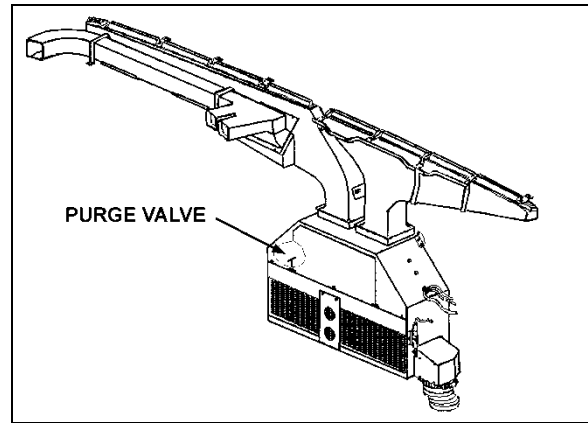
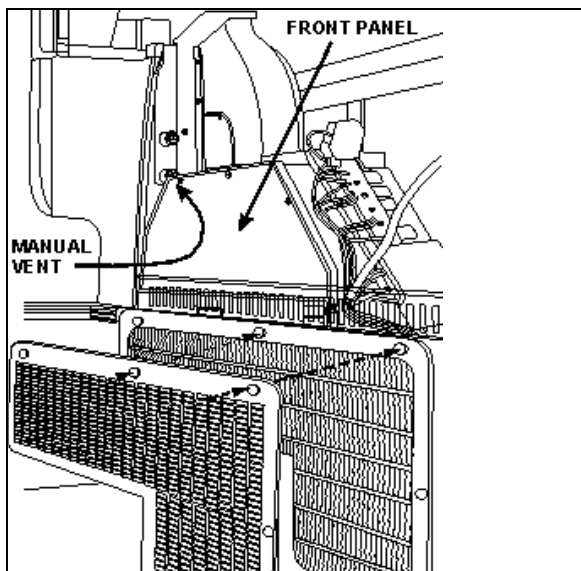
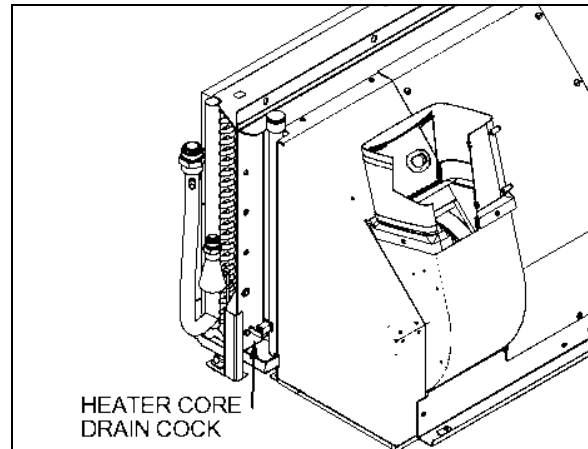

FIGURE 74: DRIVER'S UNIT AIR MIXING BOX 22171PV
FIGURE 73: DRIVER'S HVAC/DEFROST UNIT
FIGURE 79: HEATER CORE DRAIN COCK LOCATION
Fresh air is taken from behind the R.H. side headlights assembly (H3 series) or from a plenum underneath the front service compartment (X3 Series) and enters the mixing box through a ON/OFF damper. Return air is taken through the right console into the mixing box (Figure 74). Mixed air goes through cooling and heating coils, fans and discharge ducts.
4. From inside of vehicle, remove the two finishing panels in front of unit. Remove the three screws fixing the unit front panel. Open the purge valve located inside the driver's unit (Figure 74). If present, open the manual vent located inside the HVAC unit, on the driver's side (Figure 73) to ensure an efficient draining.
4. Open drain cock in bottom of heater core (Figure 79) you can unfasten a hose connection on top of heater core in order to allow air to enter while draining. The main heater core drain cock is located in the evaporator compartment. To access the valve, open baggage compartment door located in front of the evaporator compartment (L.H. side). Open the evaporator compartment access panel.
Whenever the heating system has been drained and refilled, or the system has run low on coolant and coolant has been added, it is necessary to bleed air from heating system. Locate the purge valve illustrated in Figure 74 & Figure 79, and open them momentarily until no air escapes from the lines. If present, open the manual vent located inside the HVAC unit, on the driver's side (Figure 73).